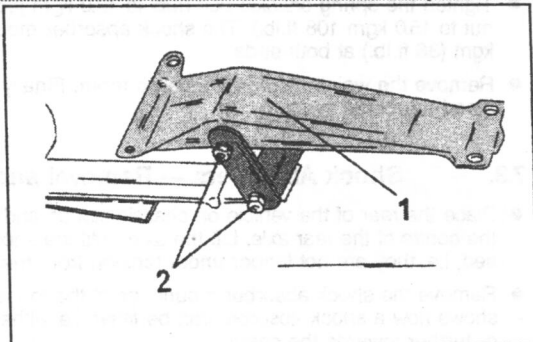

Fig. 7.8. — The rear spring mounting bracket (1) and the spring shackle mounting (2).
- Roll the axle underneath the vehicle and lift it in position until the rear mounting bracket (1) in Fig. 7.8 is snug against the mounting face on the chassis. Fit the mounting bolts without tightening them fully.